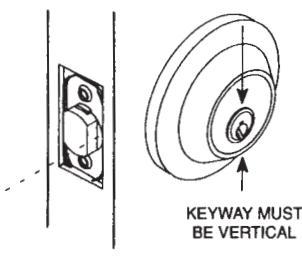

Figure 7-2
- C. See Figure 7-2. Make sure cylinder lines up on door as shown.